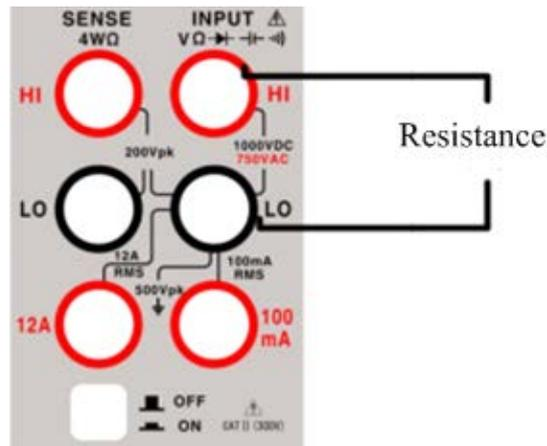

Figure 2.3.2 2W resistance measurement terminal connection
2. According to Figure 2.3.2, connect the red and black test leads respectively to the proper input terminals.